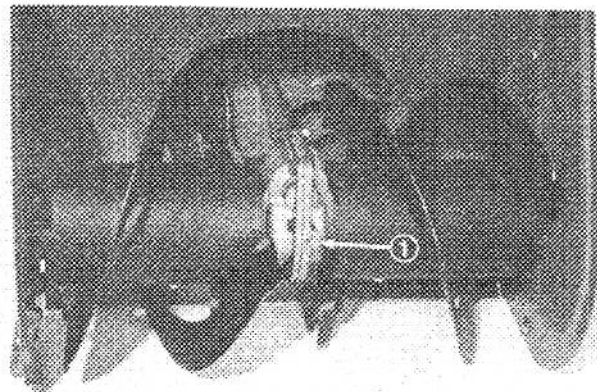

Figure 24
3. Clean area around pipe plug (Fig. 24) so dirt is removed.
4. Put a drain pan below front of auger gear box and remove pipe plug (Fig. 24).
7. Install pipe plug in gear box (Fig. 24).